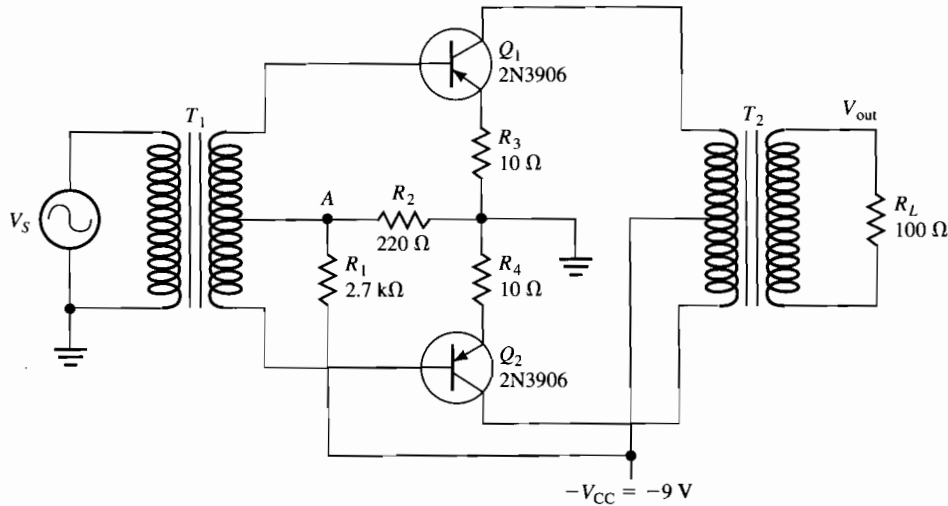

Figure 41–5
5. The bias-adjust resistor in Figure 41–4 was chosen to allow a range of bias voltage to Q_3 in order to compensate for variations in components. Compute the minimum and maximum bias voltage based on setting R_5 to its smallest and largest values.
The circuits in this experiment used complementary symmetry, useful when NPN and PNP devices with similar characteristics are available. An older, but still widely used, technique uses the same type of transistor for each half of the push-pull amplifier. The signal is connected to an input transformer that splits it into two phases. Each half is amplified by one of the push-pull amplifiers and recombined in the output transformer. Collector voltage is applied through the center-tap of the transformer. The dc bias voltage for the transistors appears at point A and is just a voltage divider formed by R_1 and R_2 . The circuit is generally used as a power amplifier but is shown in Figure 41–5 using small-signal transistors. Analyze the circuit and submit a laboratory report describing your analysis. You should include the predicted dc conditions throughout the circuit. Predict the ac waveforms at each point in the circuit. If directed by your instructor, build the circuit and test your predictions.